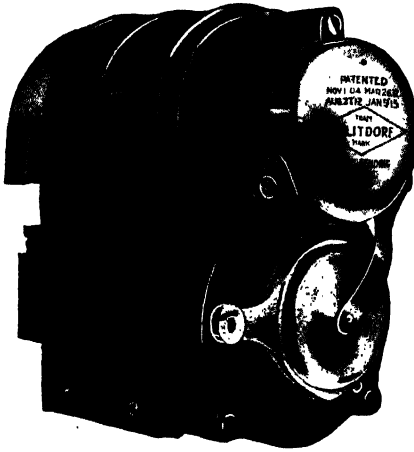
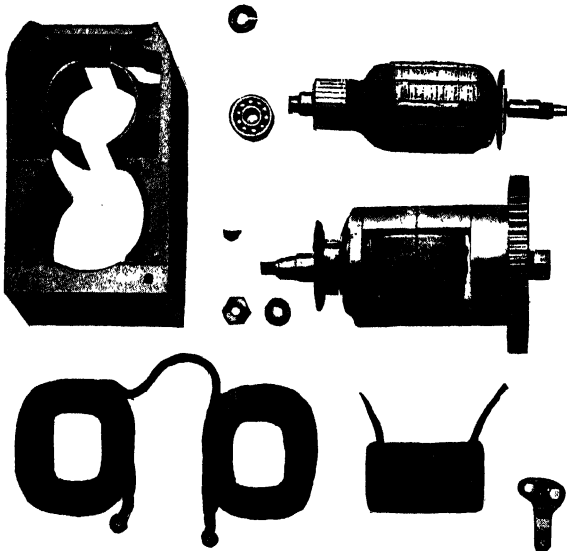

Fig. 50. Splitdorf Magneto Generator as Used on the Indian Motorcycle
Fig. 51. Parts of Splitdorf Mag-Generator
*Magneto Generators.* These generating machines—the Splitdorf type shown in Fig. 50 is used on the Indian—are a unique conception and apparently have not been influenced by automobile practice, for the instruments usually combine a high-tension magneto and a low-tension generator. This combination makes a single-unit machine mechanically, but a double-unit machine electrically, there being two separate armatures, as shown in Fig. 51, the same field winding exciting both fields. In a way, it is wrong to speak of this as partly a magneto, because the term magneto implies the use of permanent magnets for the production of the magnetic field. The armature, however, is of the regular magneto type and delivers a high-tension current to the spark plug. The generator armature is wound so as to deliver about three amperes of current at thirty miles per hour, charging a 6-volt battery. The above description covers, in general, the Splitdorf system.